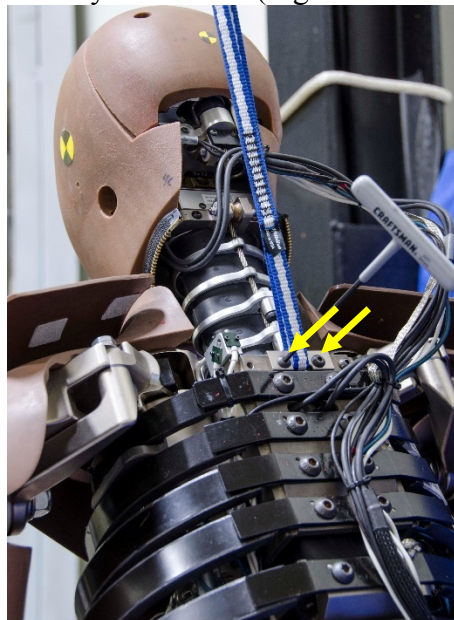

Figure 6-44. Install lifting strap bracket to upper thoracic spine box weldment
- 6.2.2.37 Install the two M5 x 0.8 x 10 BHCS through the lifting strap bracket into the Upper Thoracic Spine Box Weldment (472-3620) above the first rib (Figure 6-44). Attach the remainder of the individual ribs, numbered 2 through 7 (top to bottom) to the spine assembly (472-3600) with their respective Rib Stiffeners (each part is stamped with its respective position number) and two M8 x 1.2 x 10 BHCS per rib assembly for all ribs (Figure 6-44 and Table 6-6).